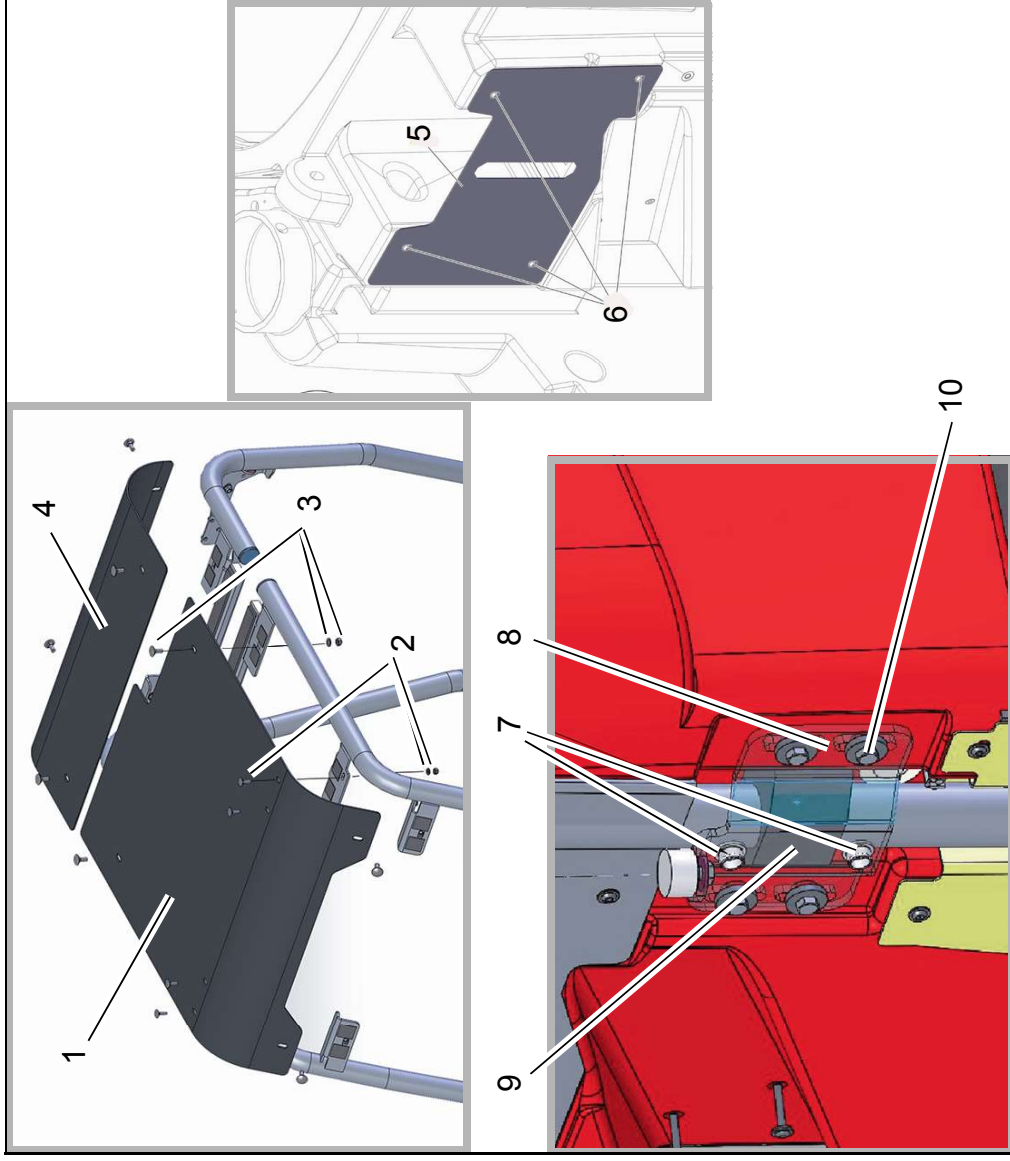

Fig. 5
1. Attach the front roof (Fig. 5/1) to the two front bars with four M6x20 flat round screws, washers, M6 nuts (Fig. 5/2) and four M8x20 flat round screws, washers and M8 nuts (Fig. 5/3).
2. Attach the rear roof (Fig. 5/4) with four M8x20 flat round screws, washers and M8 nuts to the two rear bars.
Fit cover plate (Fig. 5/5) to the hopper using the existing M6x10 flanged button head bolts (Fig. 5/6).
1. Insert sealing plugs F 12 (Fig. 5/7) into the holes of the seat bearing (Fig. 5/8).
2. Position clamping piece (Fig. 5/9) at left rear bar so that is located between the two sealing plugs.
4. Tighten screws (Fig. 5/10) with tightening torque of 15 Nm.